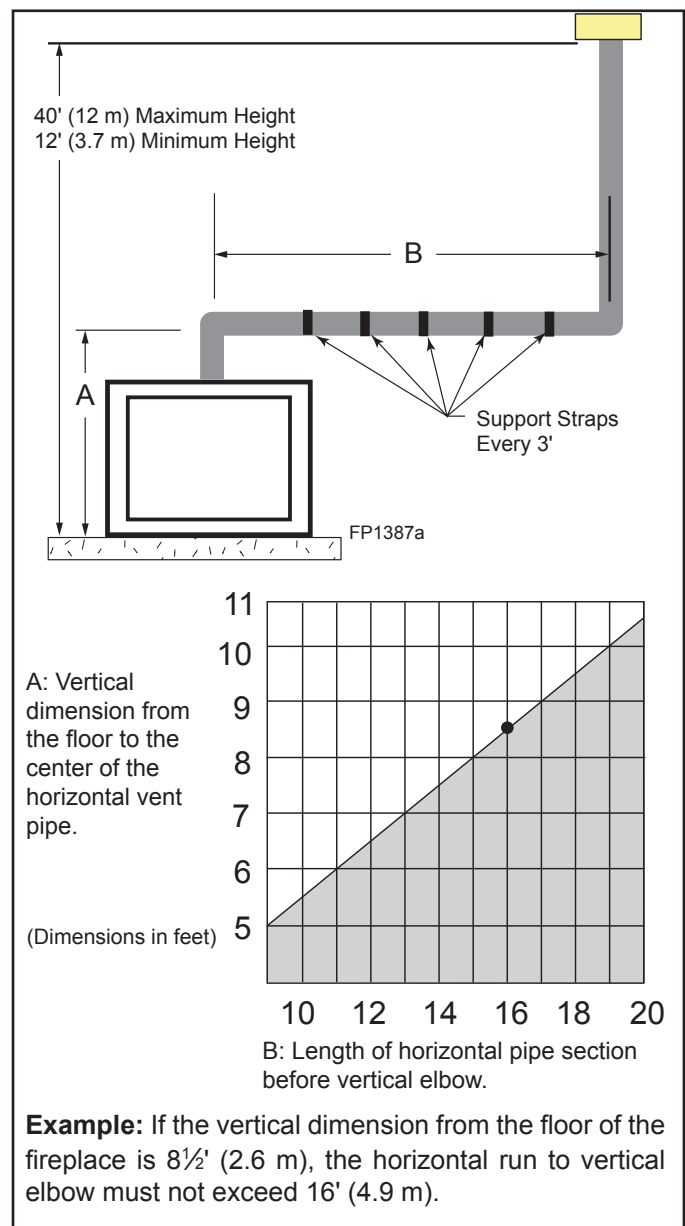

Figure 5.12 Allowable Horizontal Runs with Vertical Rises and Terminations
This gas fireplace has been approved for vertical installations up to 40' (12 m) in height. Up to a 20' (6 m) horizontal vent run can be installed within the vent system using a maximum of two 90° elbows. See Figure 5.12.
NOTE: If an offset is needed to avoid obstructions, you must support the vent pipe every three (3) feet. Use wall straps for this purpose. Page 22, Figure 5.12. Whenever possible, use 45° elbows instead of 90° elbows. The 45° elbow offers less restriction to the flow of the flue gases and intake air.